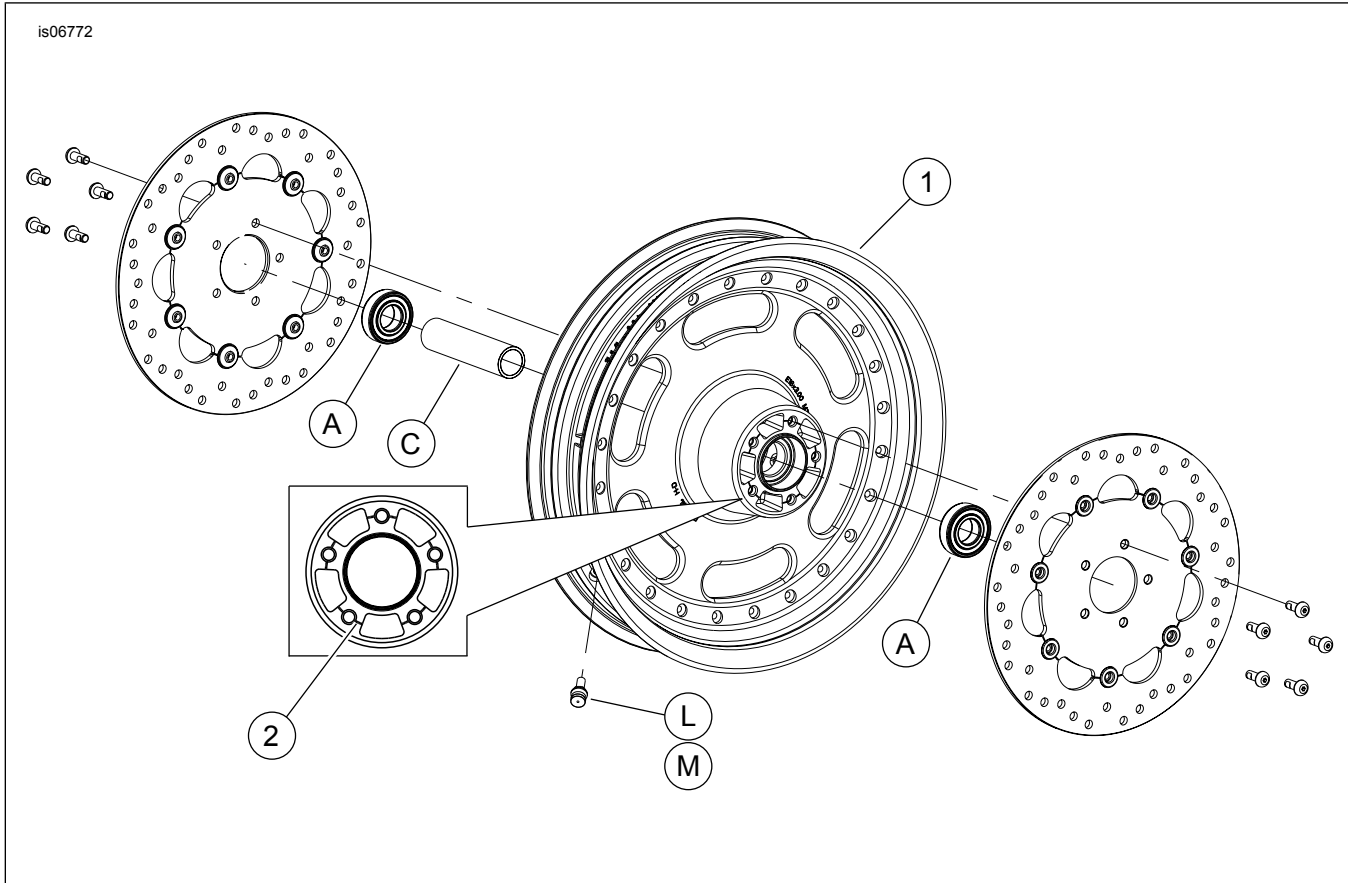

Figure 1. Service Parts: Fat Bob Cutback Front Wheel
2. See Figure 1. Install valve stem assembly (L) on wheel. Refer to service manual.